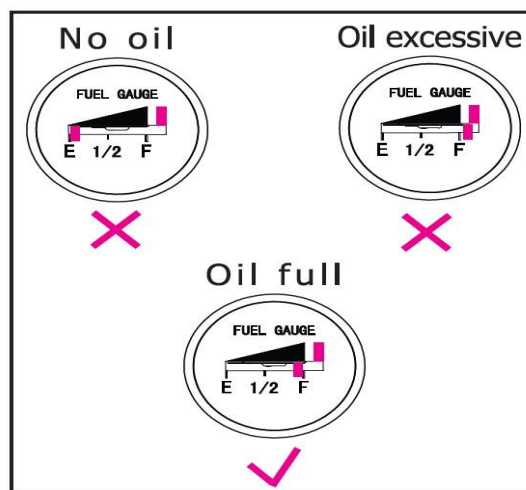

Figure 1.
5. Stop filling as soon as the hand in the fuel gauge points to the mark “F” indicating “full” (Fig.1).